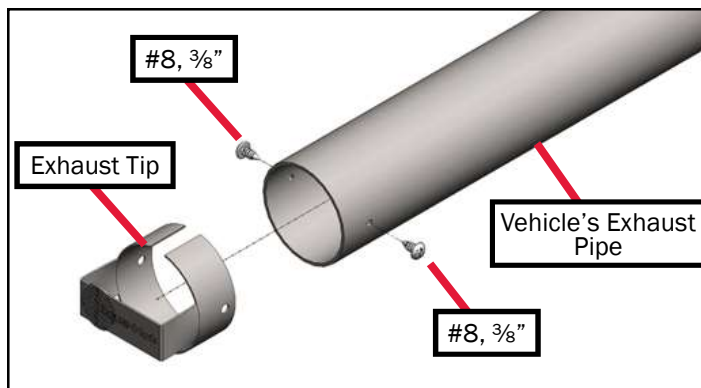

Figure 10
- The exhaust tip must be used to prevent the burner from extinguishing in winds up to 40mph. See Figure 10.